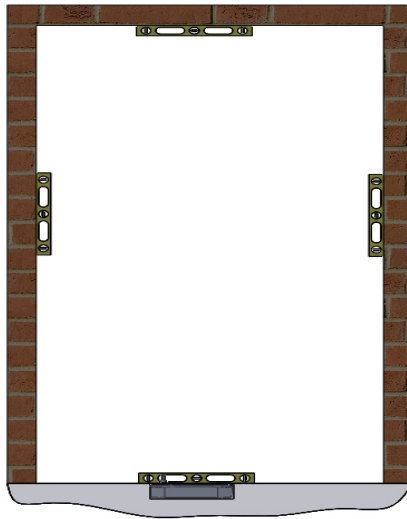

Figure 4:
2. Verify the opening is plumb and level (Figure 4).